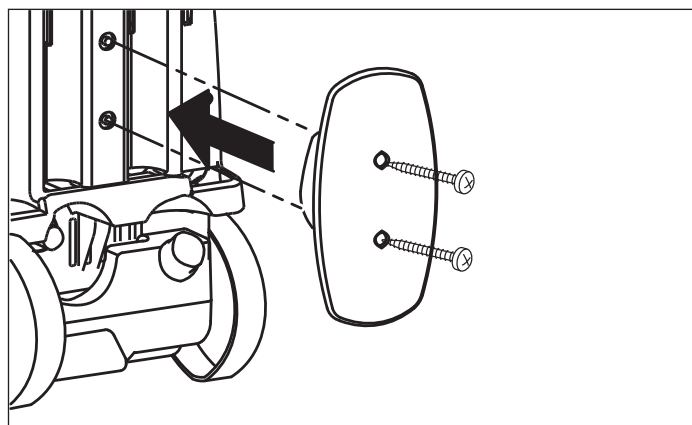

Figure 4
7. Attach hose holder with screws provided (Figure 4).